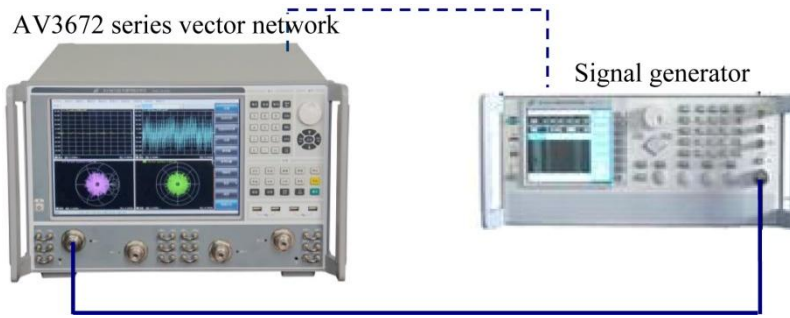

Fig. 11.6 Block Diagram of 1dB Compression Level Test of Port
- 1) As shown in Fig. 11.6, connect the system and preheat it for more than 60min. Press [Reset] > [Response] > [Average] > [Intermediate frequency bandwidth]. Enter 100Hz.
- 8) Change the frequency value and repeat Step (5) to (7) to measure the 1dB compression level of other frequency points.
- 9) Connect the signal source output cable in Fig. 11.6 to Port 2/3/4. Click [Response] > [Measurement] > [Measurement...] > [Receiver]. Activate [B]/[C]/[D] to measure the 1dB compression level of each frequency point of the other three ports.